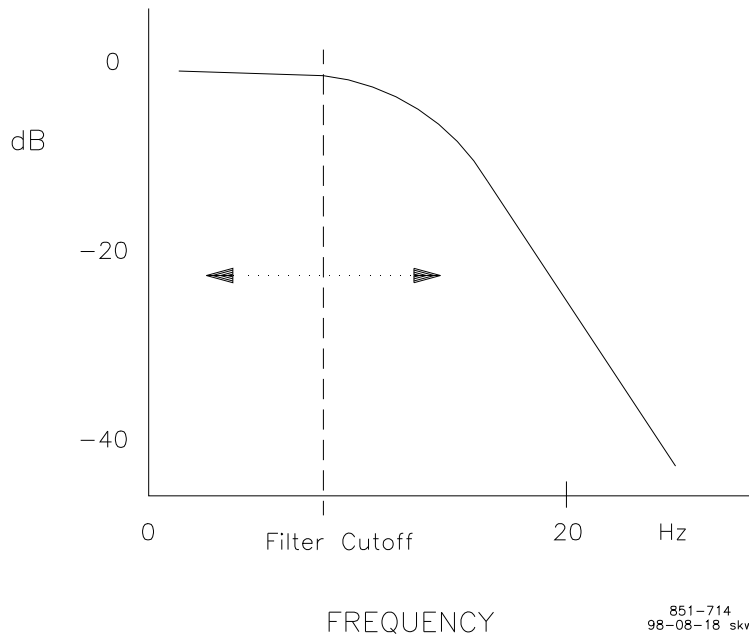

Figure 3-2. Speed Filter
- 06 SPEED FILTER FREQ 1 (HZ)** adjusts the cutoff frequency of a low pass filter used on the engine speed sensing input (see Figure 3-2). To use this feature set the cutoff frequency below 15.9 Hz. The filter is used to attenuate engine firing frequencies. To calculate the desired filter cutoff point, use the following formulas:
- 15 SPEED FILTER FREQ 1 (HZ)** adjusts the cutoff frequency of a low pass filter used on the engine speed sensing input (see Figure 3-2). To use this feature set the cutoff frequency below 15.9 Hz. The filter is used to attenuate engine firing frequencies. To calculate the desired filter cutoff point, use the following formulas: